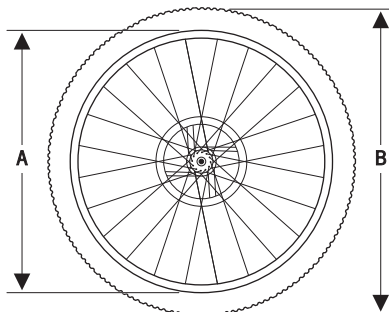
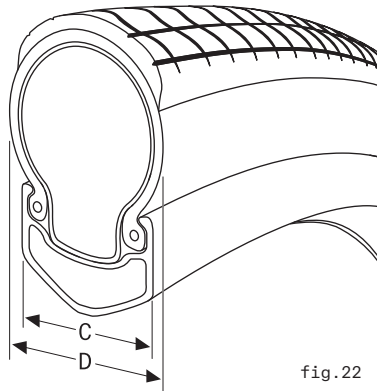

fig.21
fig.22
come in a wide range of diameters (fig.21) and widths (fig.22). The nominal diameter of the rim (A) must match the nominal diameter of the tire (B), and the width of the rim (C) must be compatible with the width of the tire (D).